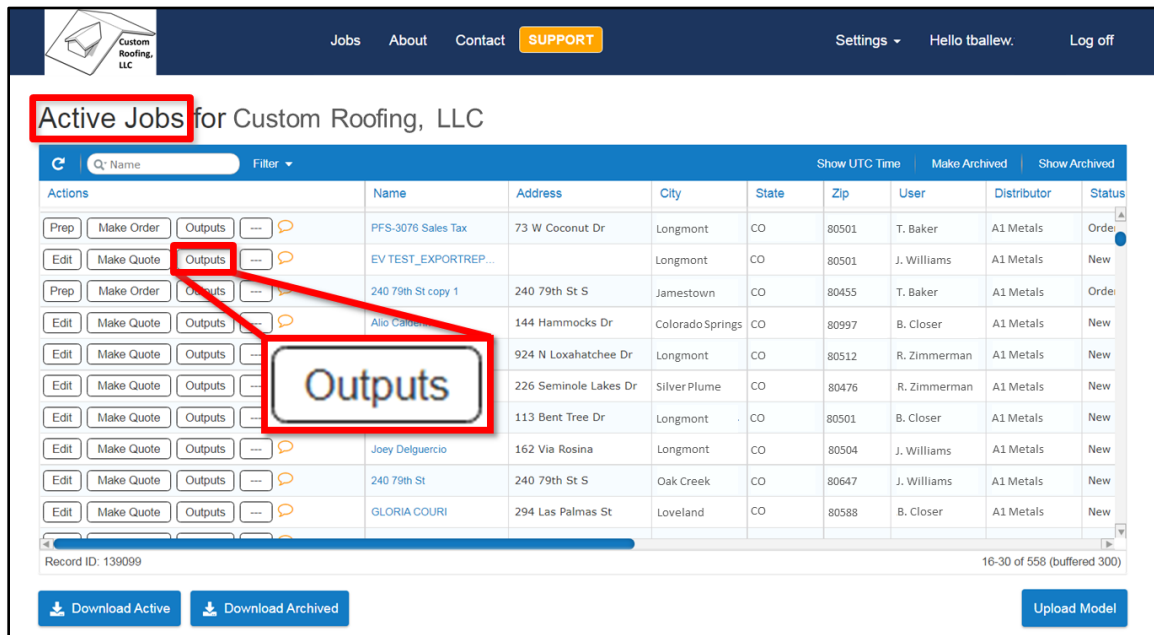

Figure 45: Choose a job to work with and click on the *Outputs* button to the left of that job.
1. From within the Roofing Passport interface, navigate to your *Jobs List* page. Choose a job to work with, and click on the *Outputs* button to the left of that job, as pictured in **Figure 45** below.